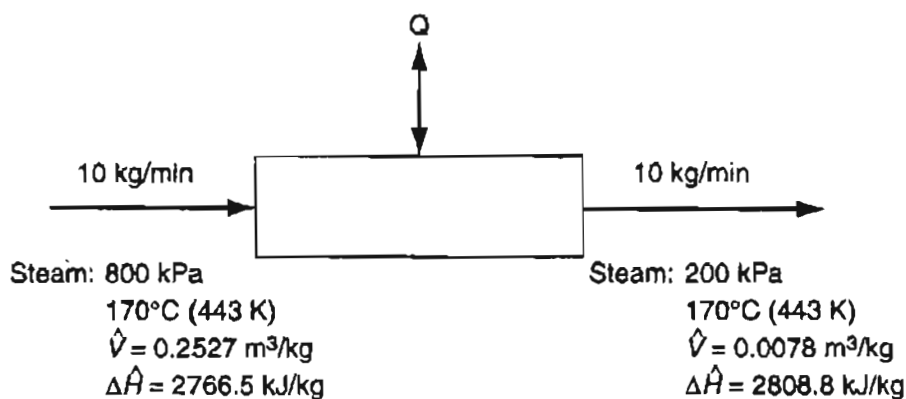

Figure SAT22.5P2
- Calculate Q for the system shown in Figure SAT22.5 P2.